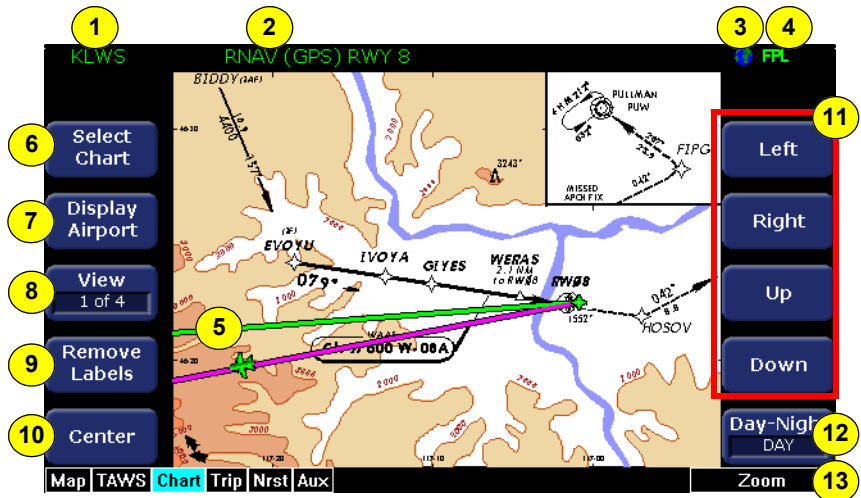

Figure 6.1 CMax Procedure Chart (2-Knob)
- **2-Knob** - Use the buttons on the right-hand side of the display labeled Up, Down, Left, and Right to manually move the chart on the screen (as shown in Figure 6.1).
up with a default to Night mode. In a 2-knob EX500, the Day/ Night button is on the bottom right corner (shown in Figure 6.1).
| 1 of 4 | Plan      | Includes a flight plan overlay, if geo-referenced. Shown on Figure 6.1 on page 47. |